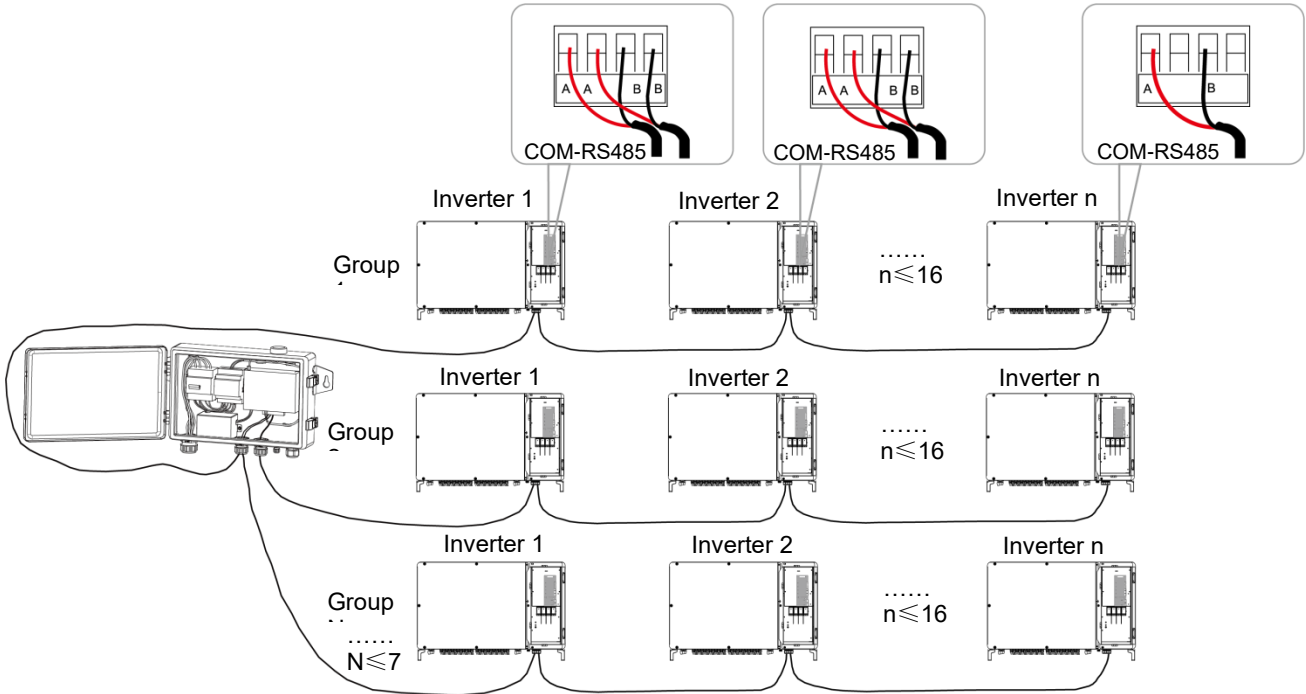

Figure 5-14
- 3) In case of multiple inverters, all the inverters can be connected via RS485 cables in the daisy chain manner, as shown in Figure 5-14.